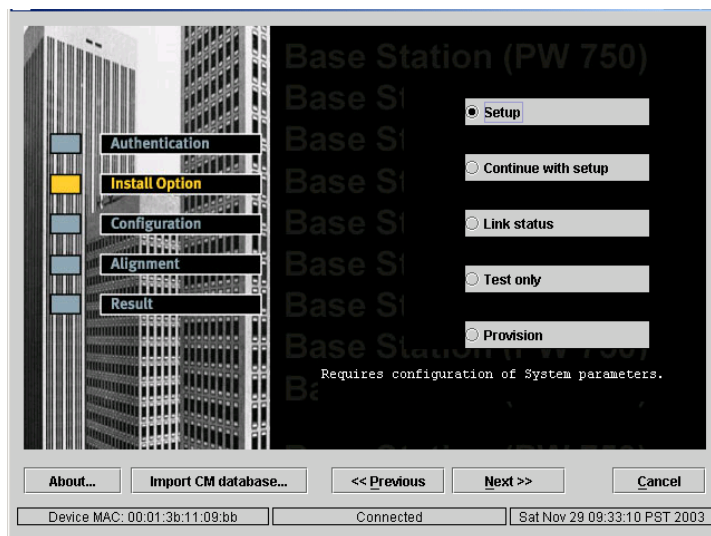

Figure 5-3 *Install Option Window*
5. The Installation Option Window will be displayed, as shown in *Figure 5-3*. This window presents five AIM modes: